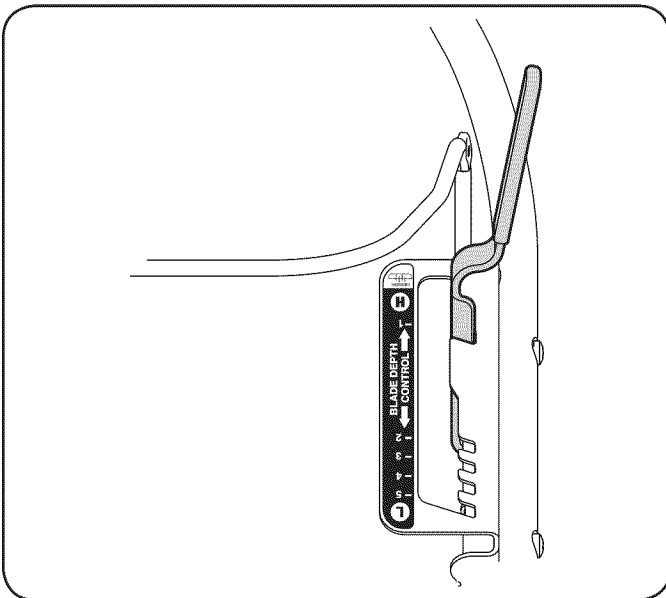

Figure 10
2. Set the height adjustment lever to the appropriate slot; 2 being the highest setting, 5 being the lowest. Settings 3, 4, and 5 are not needed until the blades are too worn to be effective on setting 2. Optimum cutting depth is ⅛ of an inch. See Figure 10.